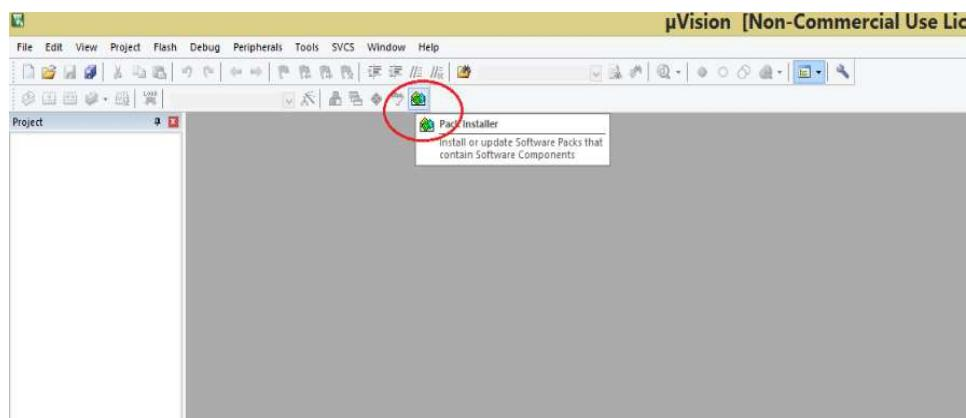

Figure 11: Select Pack installer
2. Now from the top bar select Pack Installer option in the top bar as shown in Figure 11.